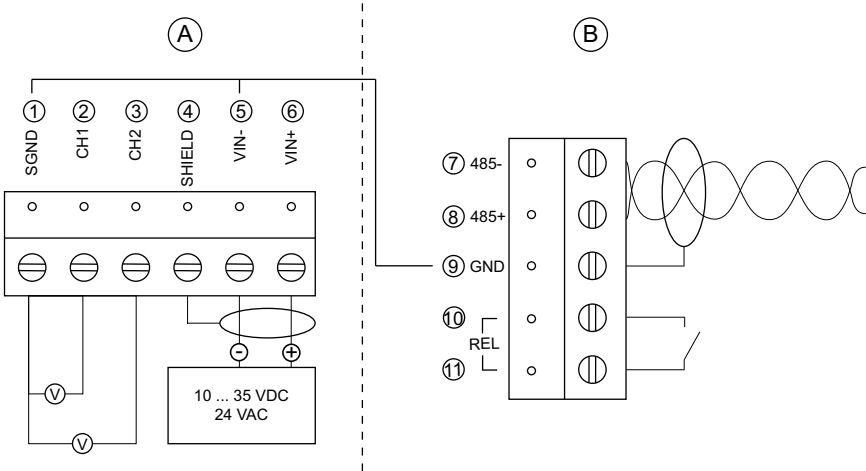

Figure 12 Power Supply and Voltage Outputs (A), and Serial Communication and Relay (B)
- 1) Numbers 1 ... 6 in the first column of the wiring table refer to section (A) and numbers 7 ... 11 to section (B) in Figure 12 \(page 22\).
- 2) There is an internal connection between numbers 1 and 5 on section (A) and number 9 on section (B).
3. Connect the wires as indicated in Figure 12 \(page 22\) and in Table 4 \(page 22\). Suitable wire size is 0.5 ... 1.5 mm².